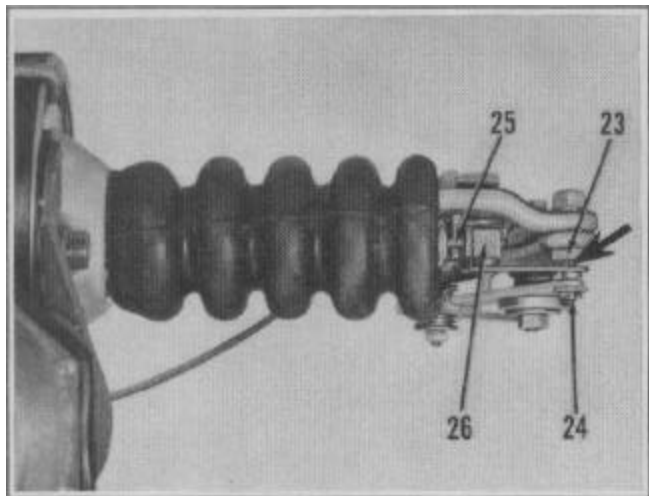

FIGURE 1
Adjustment No. 8, Page 8-12, should read as follows: Check length of valve rod (applicator valve) (25) Figure 1. If the setting is correct, the center line of the pin (24) will be exactly in line with the center line of the piston rod pivot bolt (23) as indicated by large arrow.